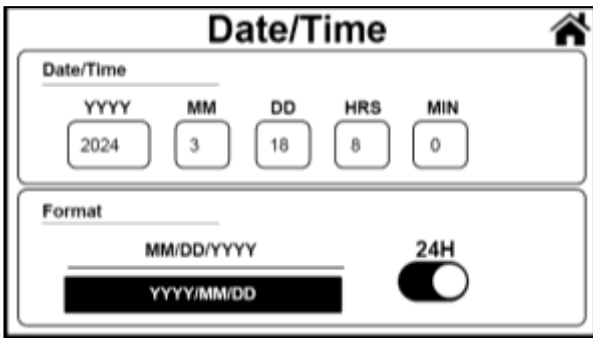
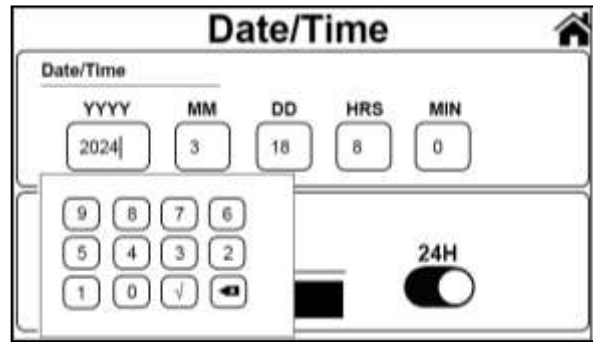

Figure 90
Figure 91
2) Touch the first item “Date & Time” to enter the interface, as shown in Figure 90 below. Touch the value of time and date, the interface will pop up the numeric keyboard, as shown in Figure 91, at this time users can modify the time and date according to their own needs. After modification, the machine will save the setting automatically. Touch the “” key on the upper right corner of the screen or press the “” key to return to the previous interface.